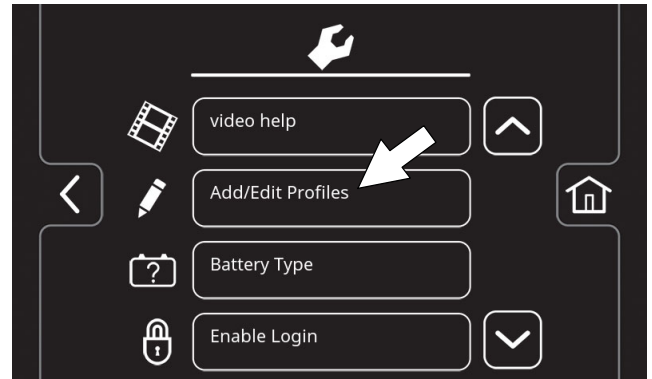

FIG. 151
- Press the Add/Edit Profiles button to enter a new user profile (Figure 151).